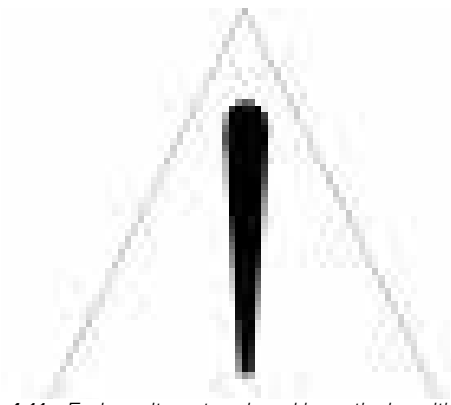

Figure 4.11 - End result: motor placed in vertical position
4. Reduce the load on the first pair of eyebolts to start the motor rotation, as shown in Figure 4.11. This procedure must be carried out slowly and carefully.